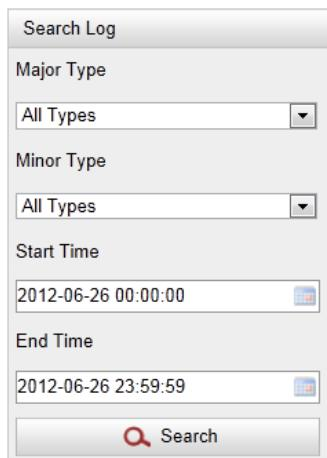

Figure 10-2 Log Searching
2. Set the log search conditions to specify the search, including the Major Type, Minor Type, Start Time and End Time as shown in Figure 10-2.